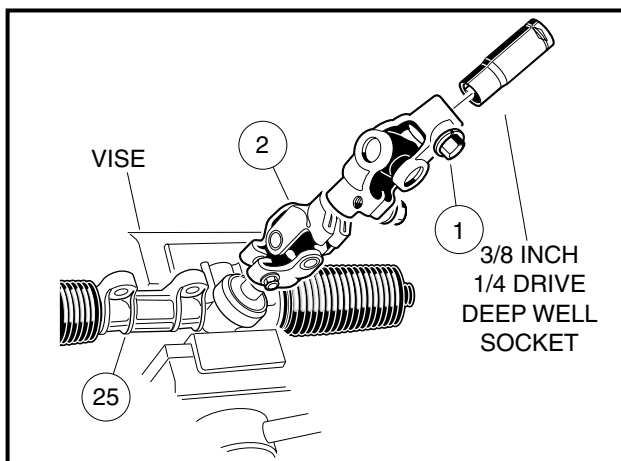

Figure 7-15 Rack and Pinion Resistance
- 11.2. Insert a 3/8 inch deep well socket into the steering column end of the universal joint (2) and tighten the bolt (1) to 15 ft-lb (20.3 N·m) (**Figure 7-15, Page 7-12**).